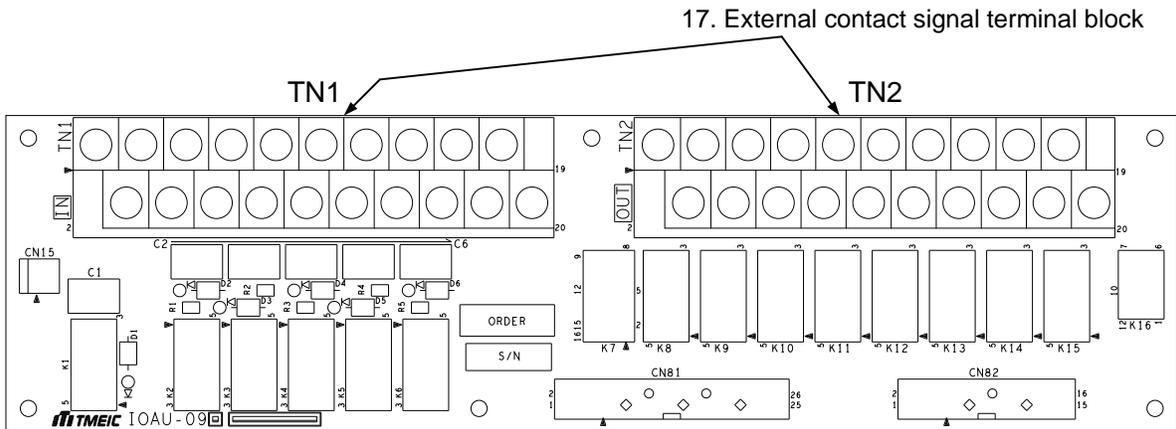
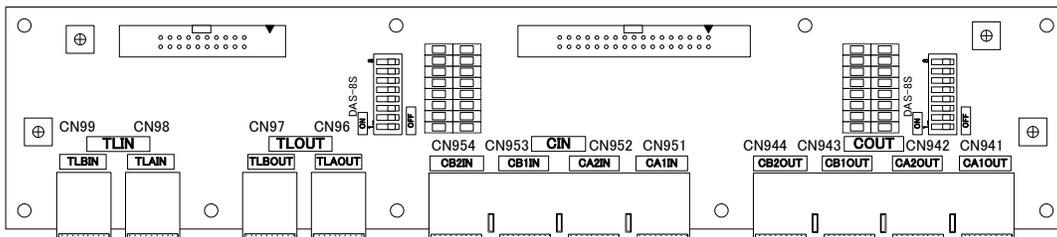

Figure 3-9 External I/F PCB IOAU-09
Figure 3-10 Parallel I/F PCB IFAU-09
**3. External I/F PCB IOAU-09 (Figure 3-9):**
- (17) External contact signal terminal block
**For use in Parallel Operation system application (Option - Figure 3-9 and Figure 3-10)**